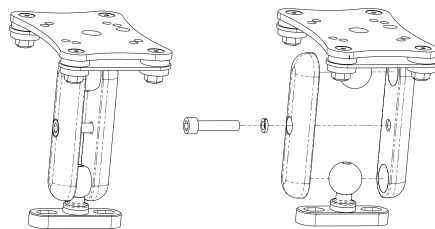

Figure 1
2. Using the 5/32" Hex Key, remove the *Positioning Screw* and *Positioning Lock Washer* to disassemble the mount as shown in Figure 1.